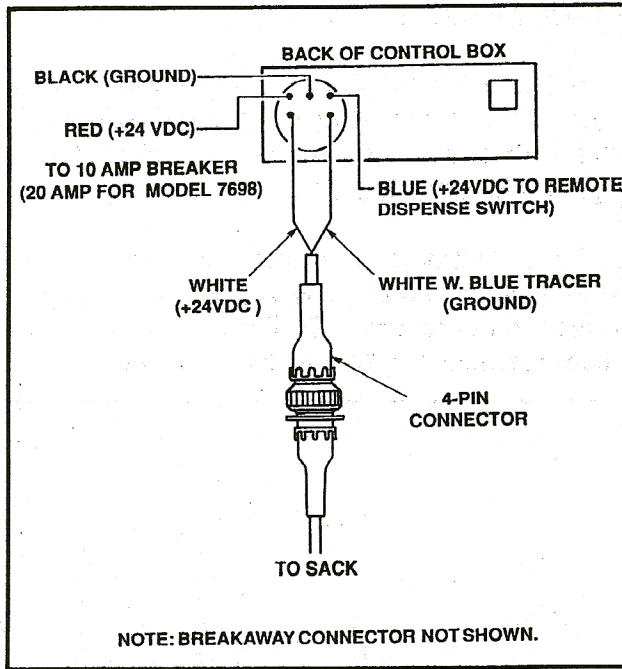

Figure 2: Control box wiring diagram.
2. Connect the 9 pin plug to the socket on the back of the control box (pin 1 is positive, pin 2 is negative). See Figure 2.